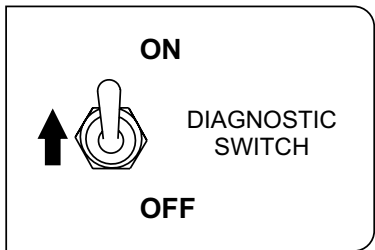

Figure 68. Diagnostic Switch (ON)
- The pre-alarm diagnostic LED will (Figure 68) start **flashing** with a pattern associated with the fault 3 times at an interval of 2.4 seconds.